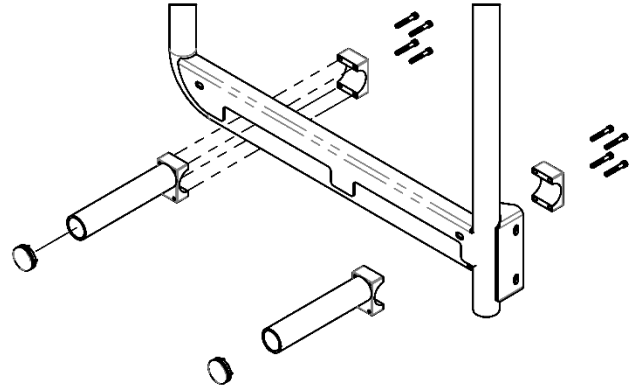

Figure 17: Support Post Installation
26. If mounting a box or bike is desired, grab your included 8" support posts (350662). Unscrew the bolts holding the pipe clamp together and place the posts facing out on the bottom of the pipe of the base unit. Adjust the posts so that they are level with the van and evenly spaced over. Tighten the pipe clamp support posts down. See Figure 17 for reference.